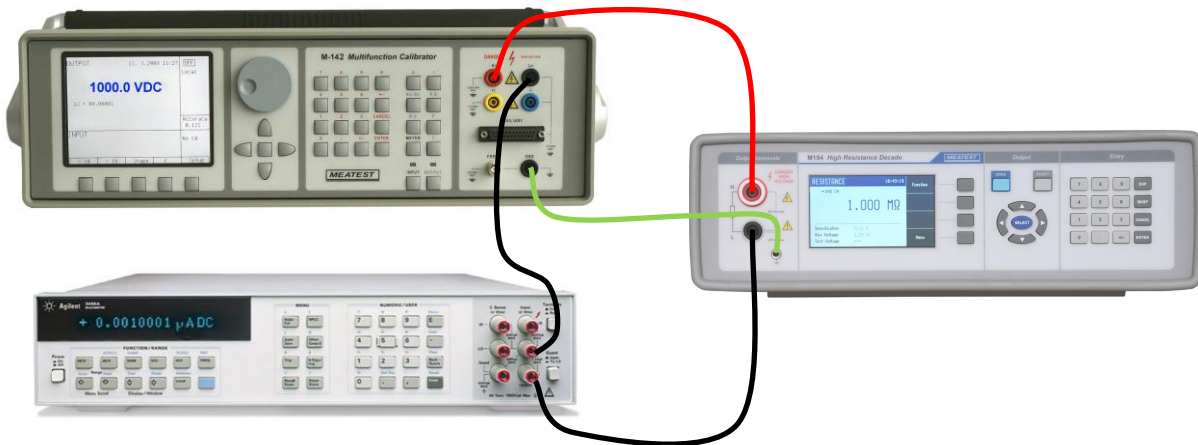

Fig 15 Volt-ampere method of verification
6. Disconnect standard megaohmmeter. Connect DC High voltage source and standard multimeter according to Fig 15. Set DC current function in standard multimeter. Set recommended DC test voltage according to the table Tab 3. If necessary, check DC output voltage using standard DC voltage divider and standard voltmeter.